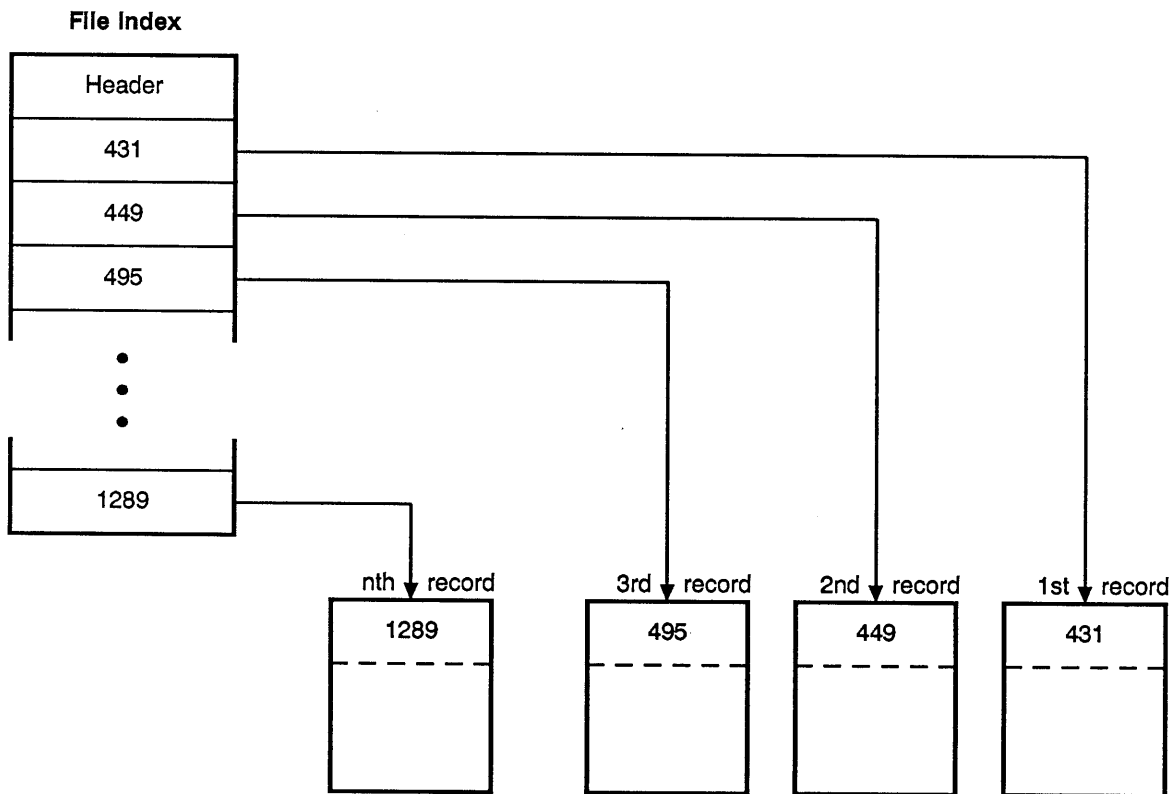

FIGURE 1-3. DAM File Structure
- The first record of a DAM file is reserved for use by the system. No user data is ever written in this record, which is always the top-level index. An index is a list of pointers either to subindexes or to the records in a DAM file. See Figure 1-3 for a graphic representation.